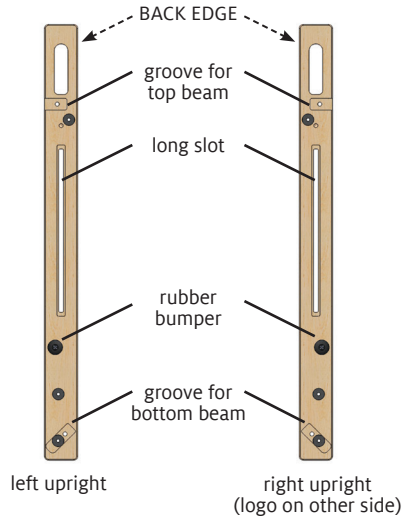

FIGURE 1: ATTACH BUMPERS TO THE UPRIGHTS
1. Attach rubber bumpers to the uprights: Insert each #8 x 1/2" Phillips pan head sheet metal screw through the round side of a rubber bumper. Attach the bumpers to the inner sides of the left and right uprights as shown in Figure 1.